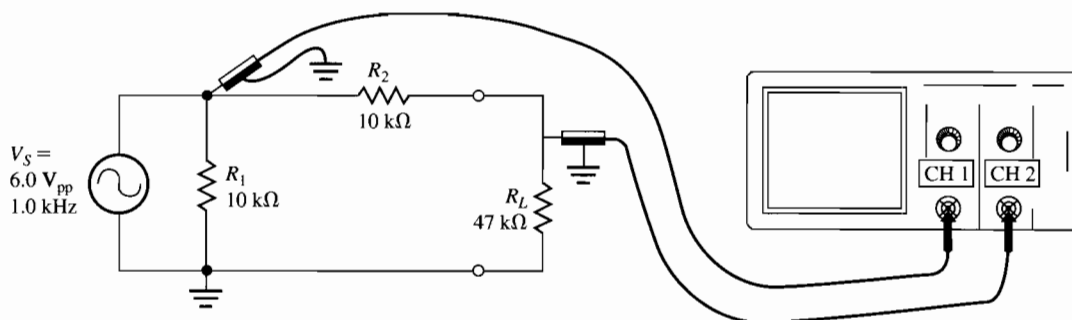

Figure 33-3
1. Connect the circuit shown in Figure 33-3. Connect the signal generator to the circuit and set it for a 6.0 V_{pp} sine wave at a frequency of 1.0 kHz with no dc offset. Observe the input and output waveforms on the oscilloscope by connecting it as shown. Notice that R_2 and R_L form a voltage divider, causing the load voltage to be less than the source voltage. R_1 will provide a dc return path in case the signal generator is capacitively coupled.